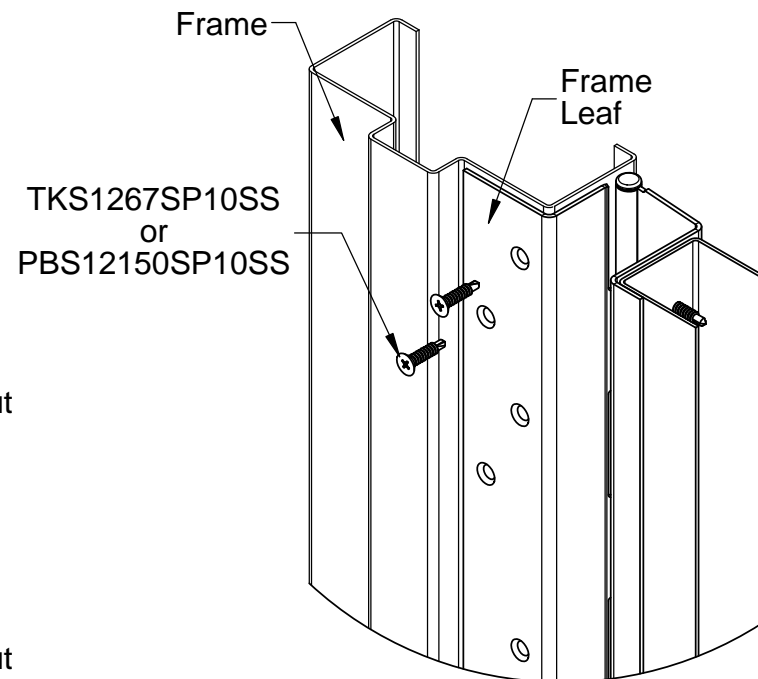

Fig. 4
2. **Attaching hinge to frame: (Fig. 4)**